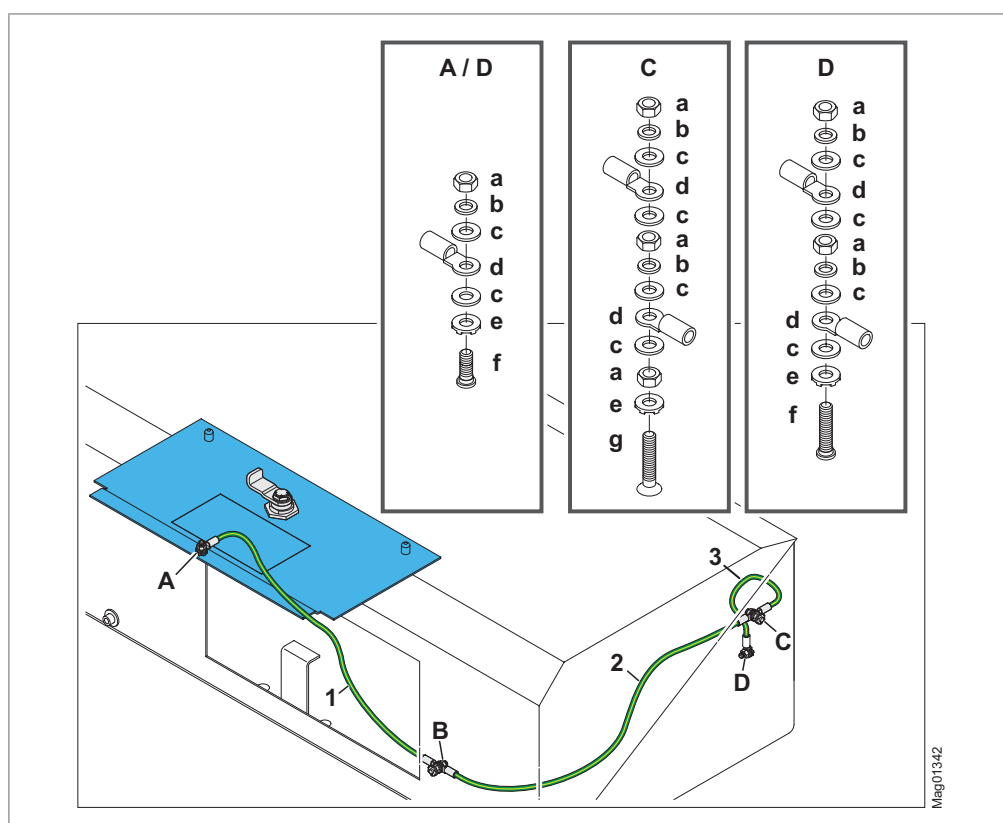

Fig. 2: Earthing points service door, cover and support beam
- A Earthing point service door (single) ↗ Page 17, Fig. 2
- B Earthing point cover (double) ↗ Page 17, Fig. 2
- C Earthing point support beam (double) ↗ Page 17, Fig. 2
- D Earthing point mounting panel support beam (single) ↗ Page 17, Fig. 2